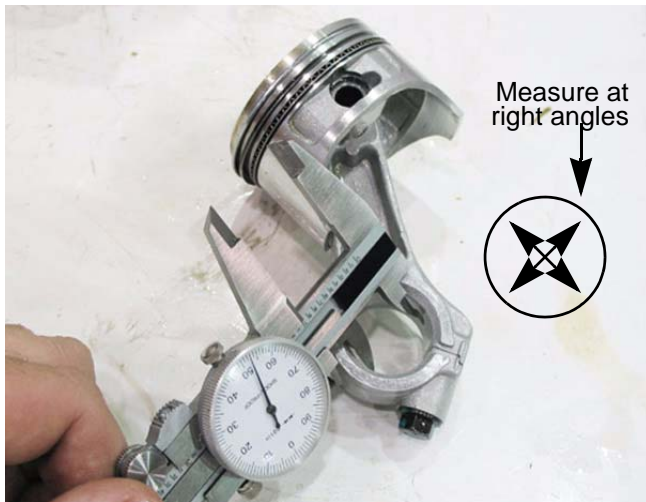

Figure 10.12
3. Measure the inside diameter of the connecting rod and compare the measurements to those listed in the chart at the end of this chapter. See Figure 10.12.